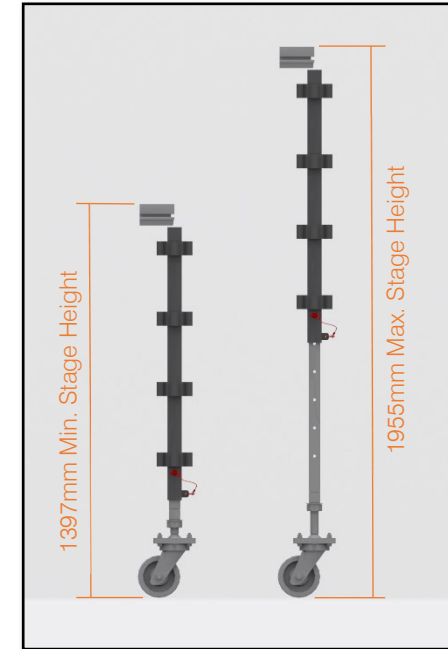

Fig. 4 - Rolling Stage Heights
- 1.6.1 Rolling. 1397mm to 1955mm. *Fig. 4 - Rolling Stage Heights*